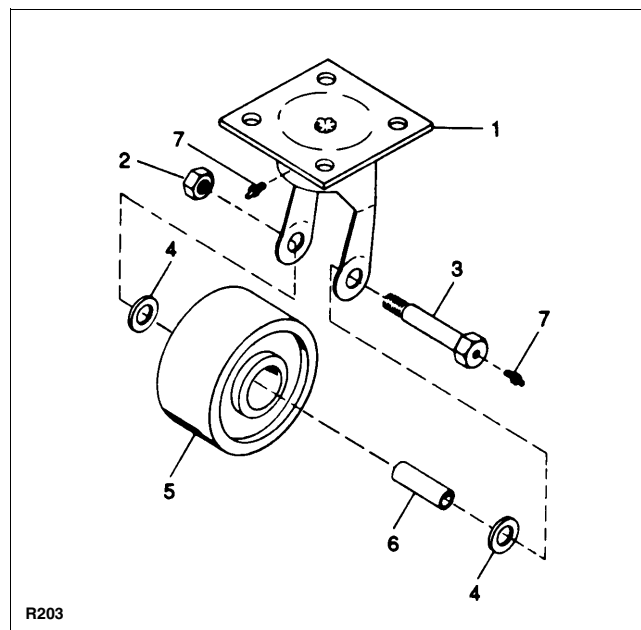

Figure 8-4 Caster Wheel with Axle Bushing
5. Remove the nut (2, Figure 8-4) pull out the axle (3), axle bushing (6). The wheel (5) will fall free.